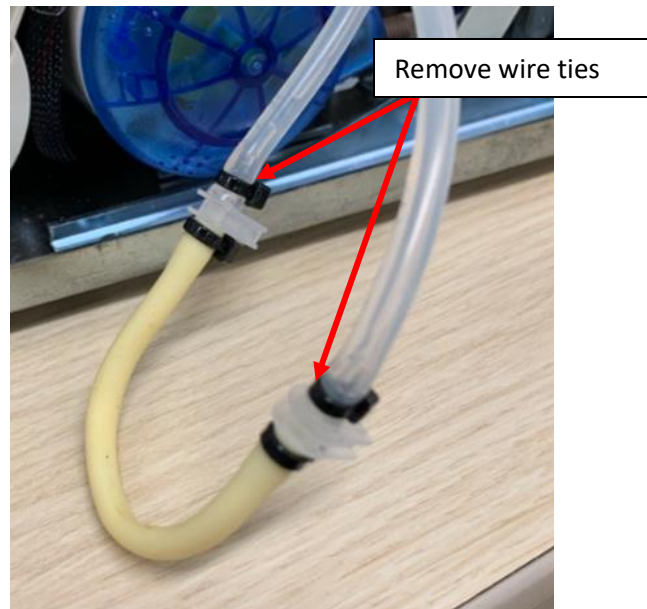

Figure 24
- 4.3. With wire cutters snip each wire tie at the end of the clear tubes for removal below. Pull each tube off from their respective connection and dispose of the pump tubing in proper waste disposal. Figure 24.